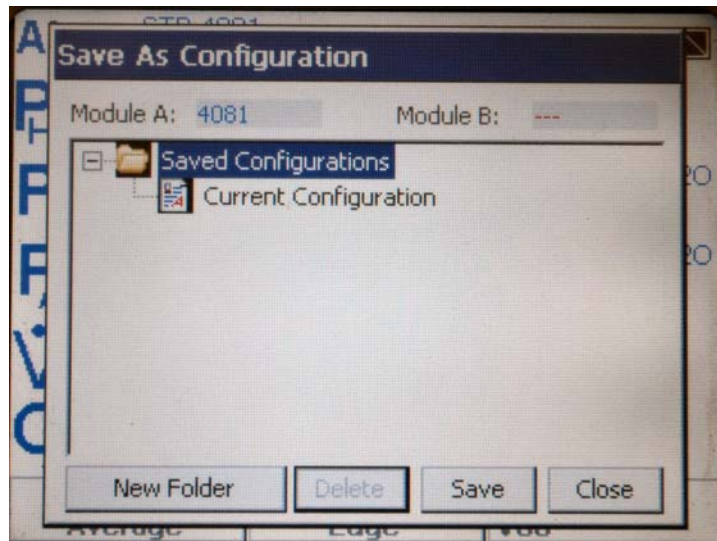

Figure 8-6: Save As Configuration - New Folder Button (Certifier FA Plus)
- To create a Respironics folder, touch **Save As**, then touch **New Folder** (Figure 8-6). If a Respironics folder already exists go to step 4.